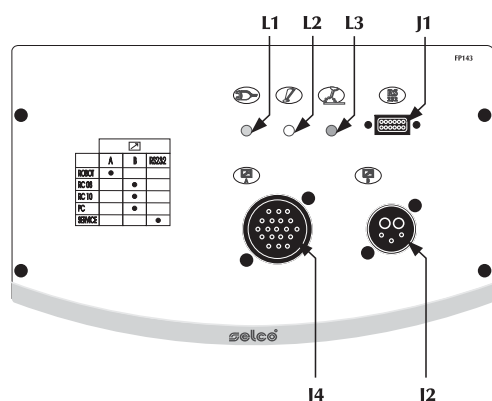

Fig.3
2.1.3 Kontrollpanel foran FP143 (Fig. 3)